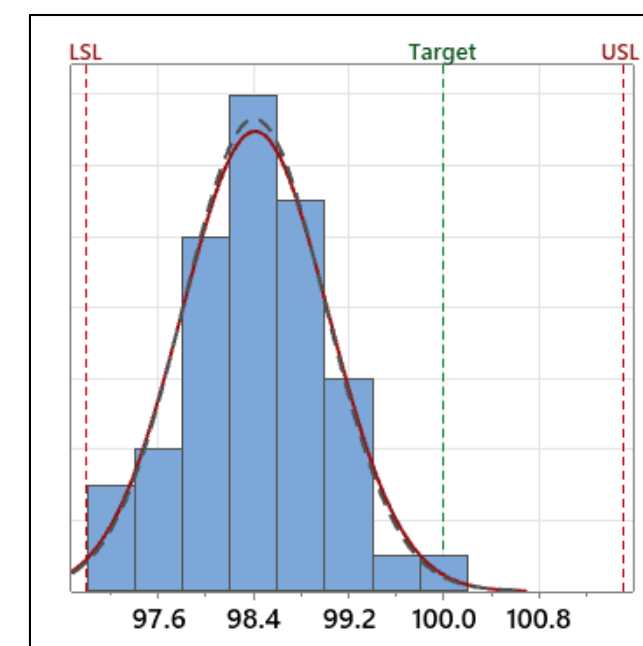

Figure 1: Process capability analysis for assay (%). Ppk = 0.77, Cpk = 0.79
- Normal distribution suggests stable process (Figure 1)
- Distribution is not centered around the target value indicating room for improvement (Figure 1)